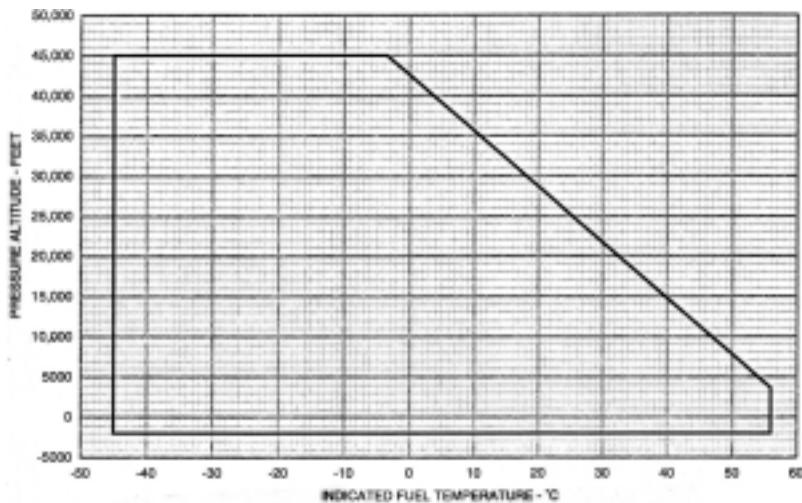

Figure LIM-7. JET B/JP-4 Fuel Operating Limitations
*REFER TO FIGURE LIM-7 FOR ALTITUDE OPERATING LIMITATIONS WITH JET B OR JP-4 FUEL.
Fuel remaining in the fuel tanks when the fuel quantity indicator reads zero is not usable in flight (Figure LIM-7).